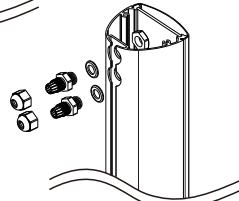

Fig.3
3. Install the waterproof connector, connect the power amplifier and the speaker wire, then close the sound column cover and lock the screws as shown in Fig 3 and 4.